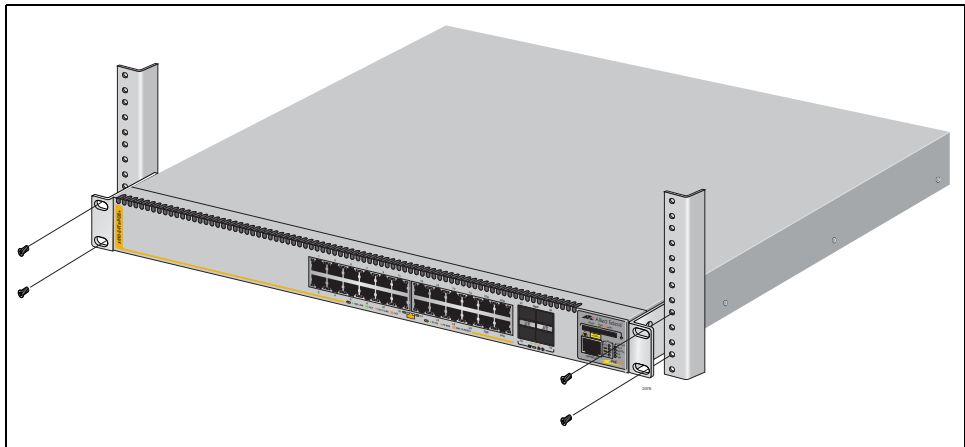

Figure 38. Mounting the Switch in a Rack
5. Mount the switch in a 19-inch rack using standard screws (not provided), as shown in Figure 38.